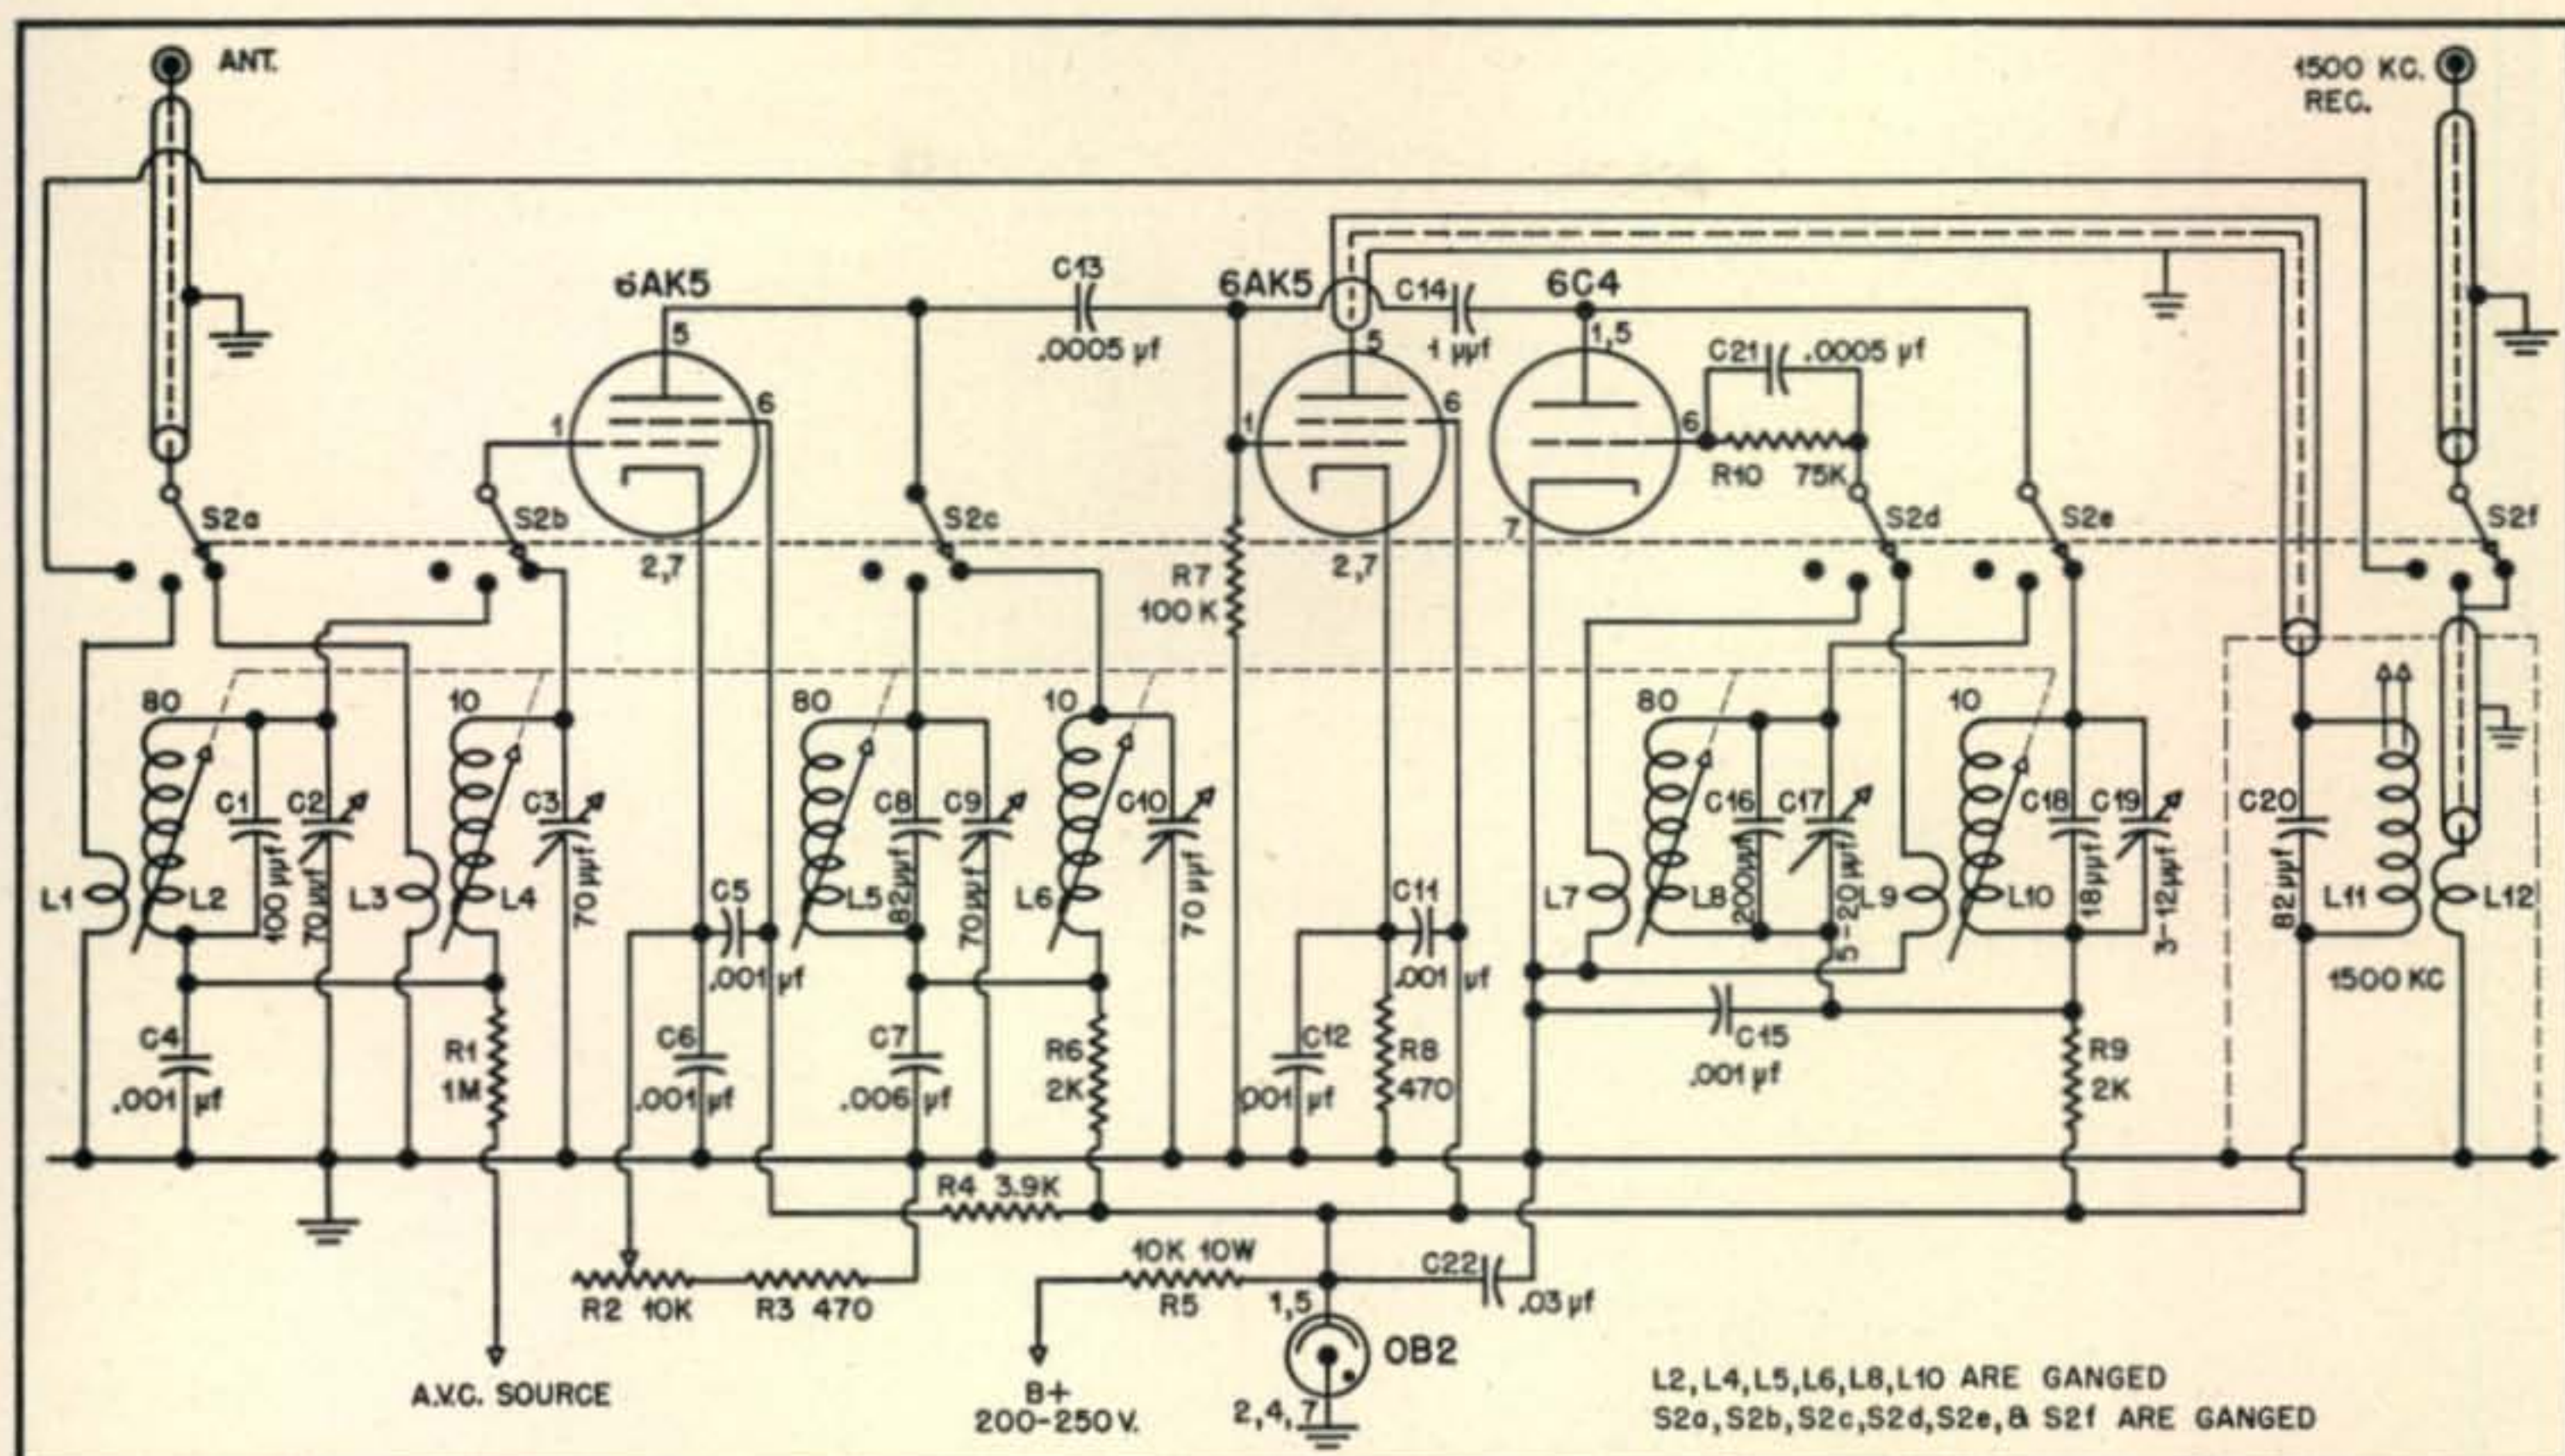

Fig. 6. Circuit of the slug-tuned converter.
13) There are several methods of recoupling the shafts of the antenna link from the front and side panels. Our method is shown in *Fig. 6*. We have put a 2" fiber gear on the shaft passing through the new 3/16" hole (*step 6*) and this hangs out beneath the new bandspread dial to give thumb control. The bearing is adjusted to make the two fiber gears mesh.
Fig. 6. Method of adjusting the link when the bandspread dial is installed. The fiber gear for thumb control and a new bearing have been used to mesh the gears at the link.
The complete circuit is shown in Fig. 6.